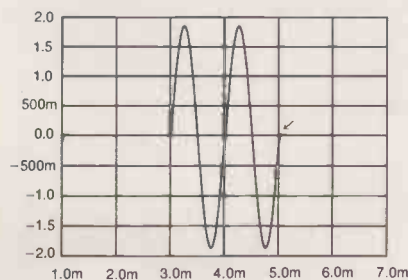

Fig. 1. The 1kHz test-tone burst employed to test speaker cables. In Figs. 3 and 4, the arrowed area is magnified.
In 1995, I devised a simple but quite realistic test for speaker cables that would show what is going on in a graphic sense, applicable to real music signals, with their perpetual discontinuity. The Dual-Domain version of the Audio Precision (AP) test set has a DSP-based FFT-test routine called 'FFT-80k' with 192kHz sample rate, which allows audio burst sinewaves to be graphed over time, Fig. 1 – analogous to a transient analysis simulation. A similar test but using a squarewave has been subsequently drawn to my attention in a less rigorous report by the high-fidelity accessories maker, QED4.
Each of the graphs, Figs. 3 & 4, is a magnification of the point immediately after the sine-burst stops, as arrowed in Fig. 1. In each graph, one response is almost flat. This is the more tightly controlled response at the amplifier output, i.e. the stimulus end, as shown in red, in my Feb '96 simulation plots. Deviations here reveal transient feedback control deficiencies. The outermost, wilder response is that at the speaker end. The differerent magnitudes directly show the degree by which cables impede the amplifier's feedback damping control at the speaker terminals.